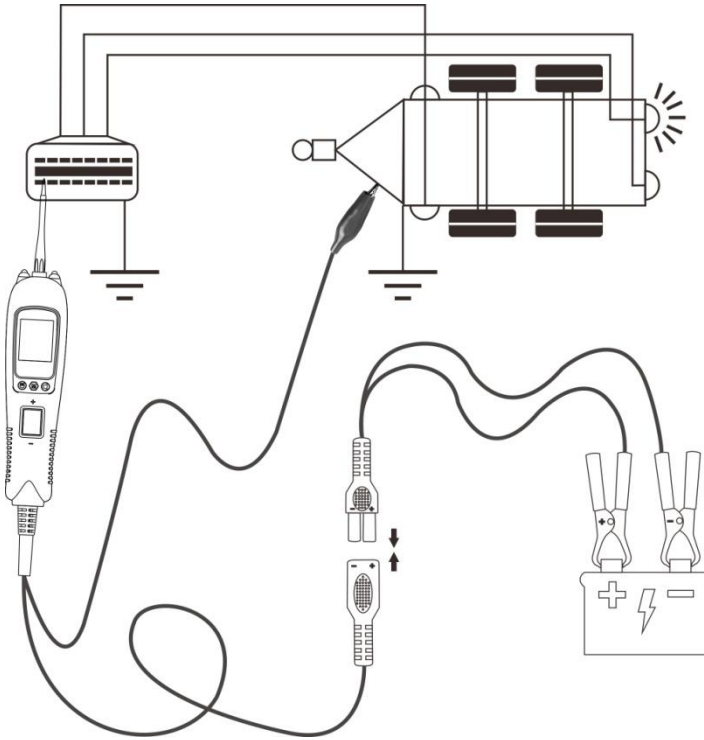

Figure 16
- 1) While the tool in DC Voltage mode, clip the auxiliary ground lead to the trailer ground, probe the contacts at the jack and then apply voltage to the probe tip. This may check the function and orientation of the connector and trailer lights. (Figure 16)